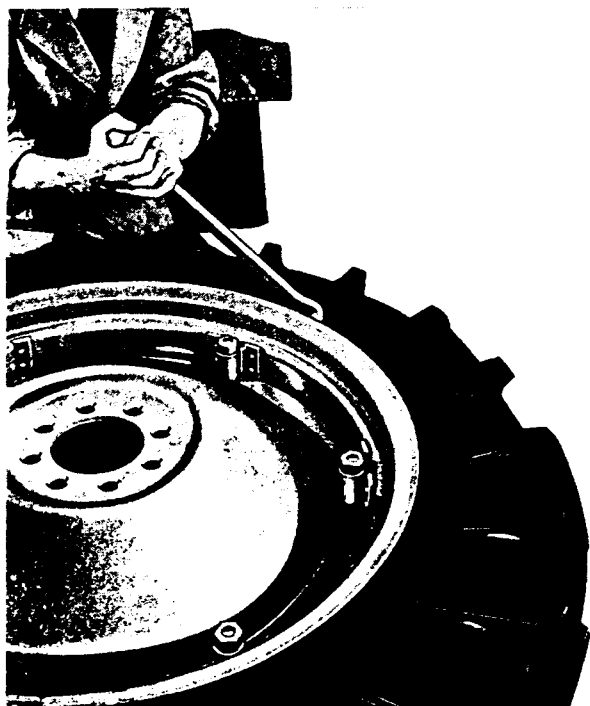

FIG. 5
2. Using suitable levers press each bead in turn off its seat on rim (see Fig. 5). Two or three circuits of the tyre may be necessary to free bead completely.